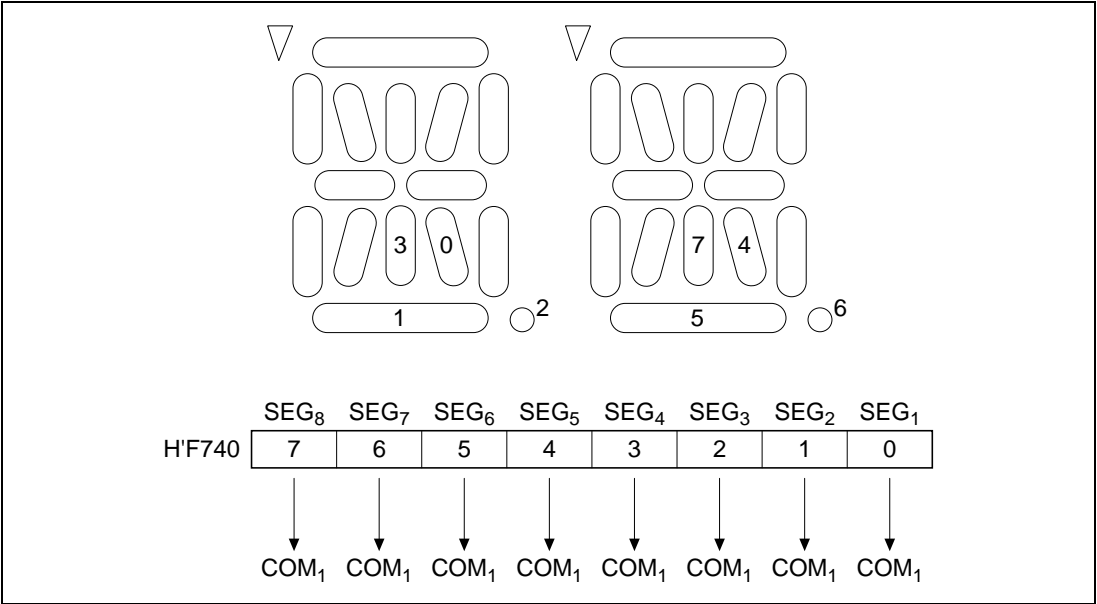

Figure 6 Relation between LCD Lit/Unlit States and LCD RAM Settings
7. Figure 6 shows the relation between the LCD RAM addresses and the segments SEG_1 through SEG_8 of the 16-line 8-character segment LCD. As the figure indicates, when the LCD RAM bits corresponding to 0 through 7 are set to 1 the corresponding LCD areas are lit, and when cleared to 0 the corresponding areas are unlit.